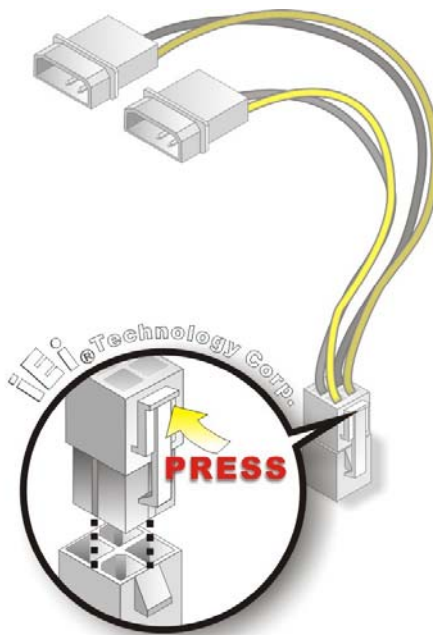

Figure 4-5: Power Cable to Motherboard Connection
Step 2: **Connect the power cable to the motherboard.** Connect the 4-pin (2x2) Molex type power cable connector to the power connector on the motherboard. See Figure 4-5.